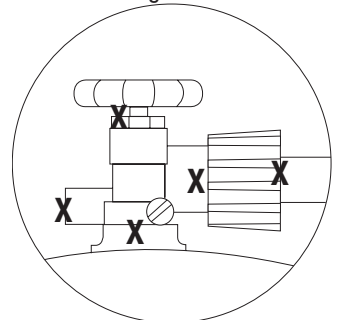

Figure 4
8. If igniter does not light burner, use a lit match secured with the lighting rod provided to light burners manually. Access the burners through the cooking grid. Position the lit match near side of the burner (Figure 4).